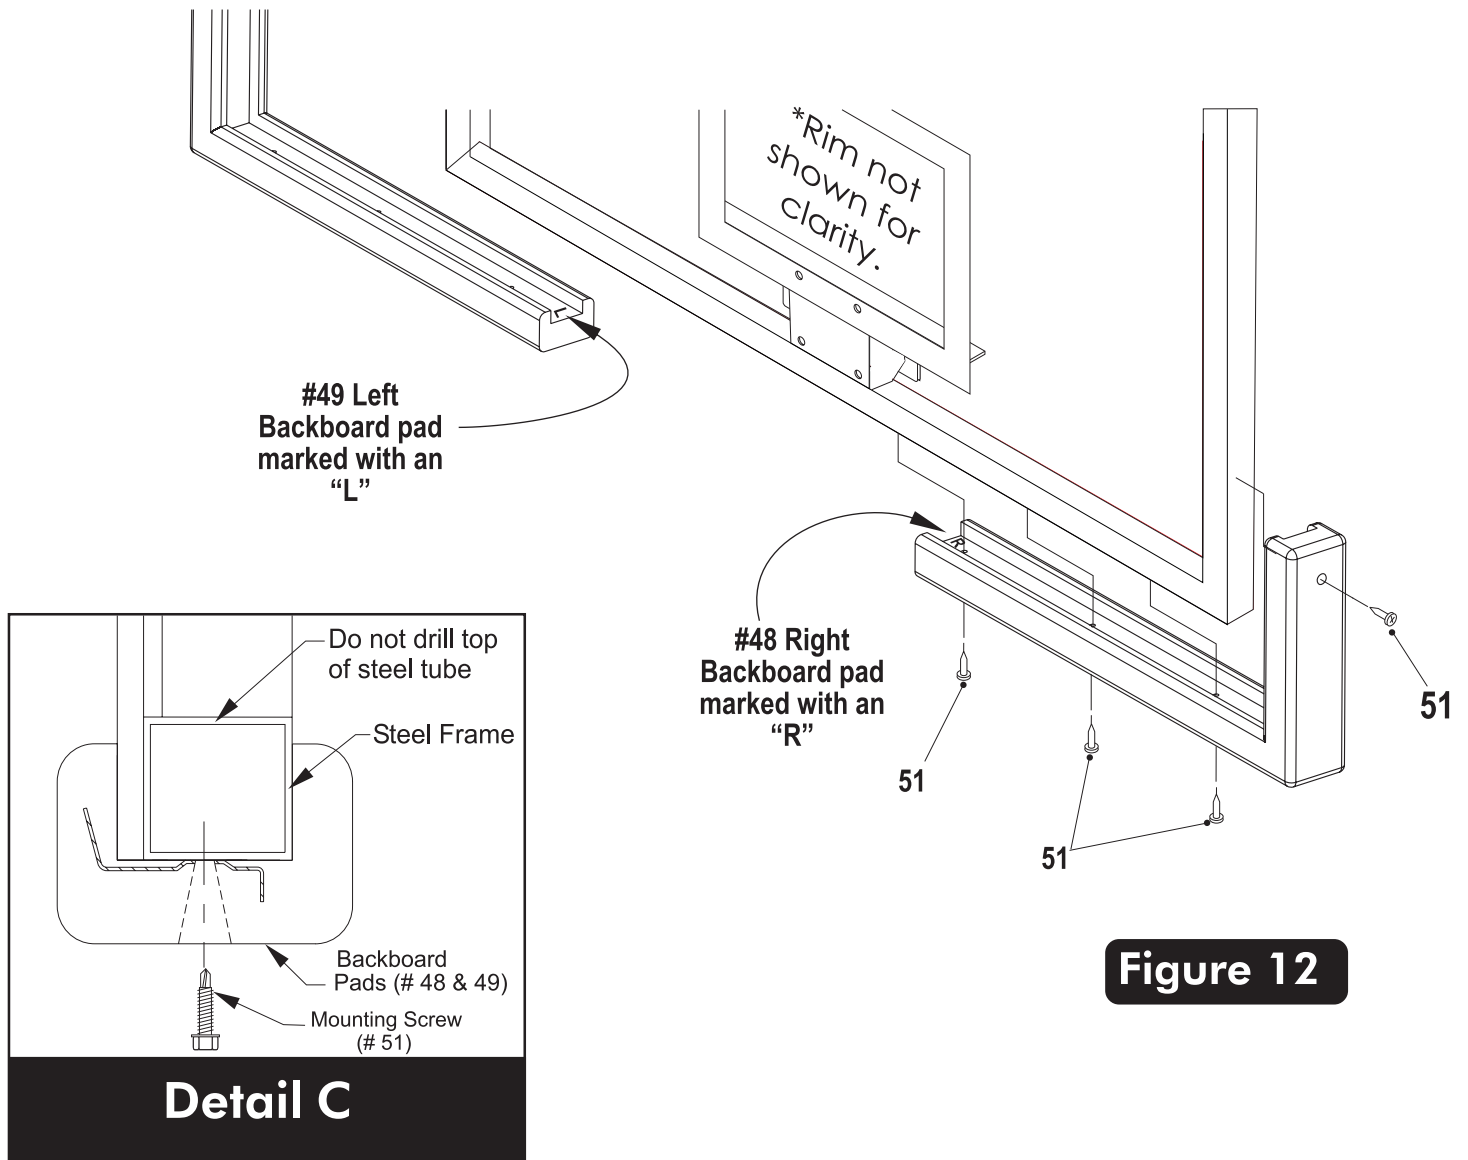

Figure 12
26. Secure Backboard pads using screws provided (#51) as shown in **Figure 12**.